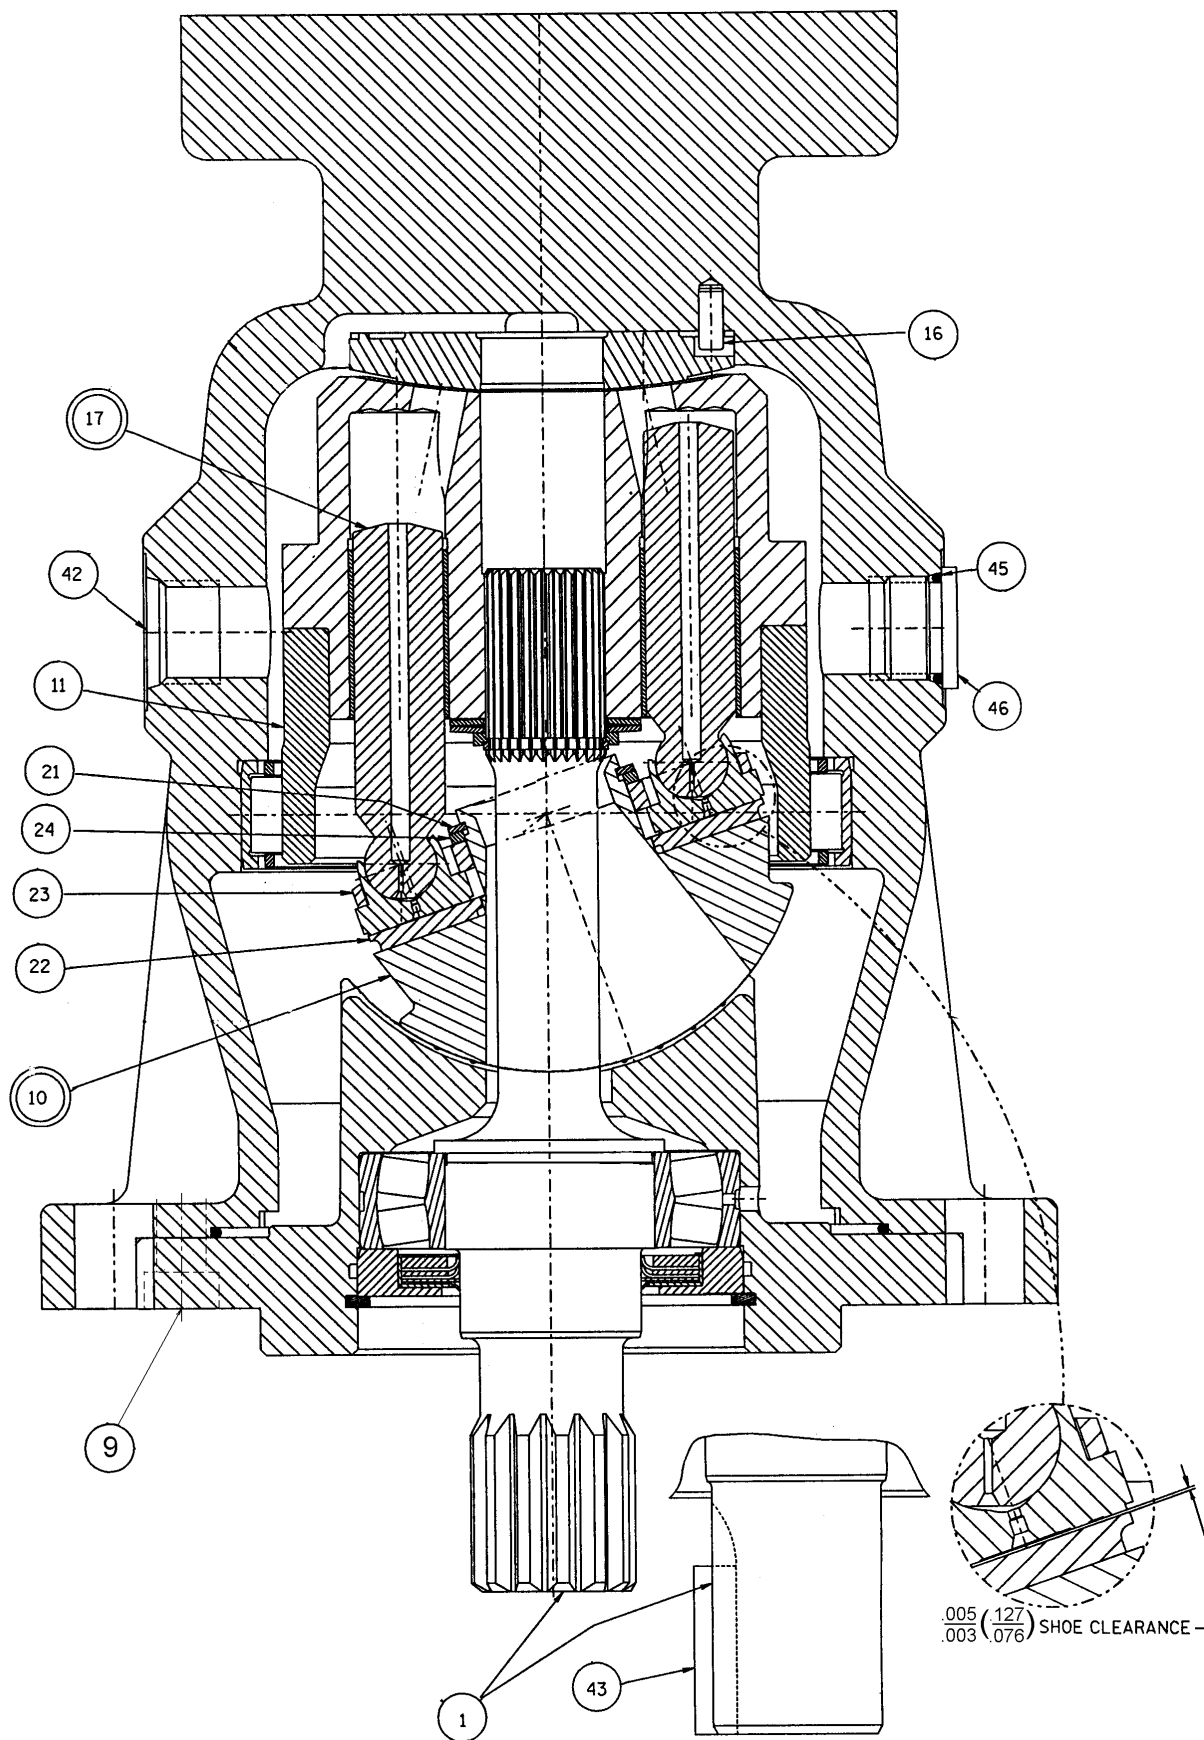

FIGURE 4
Remove port plate alignment pin (16), figure 4, from port block.
Install pin (16 figure 4) into port block.
See figure 4. Install socket head cap screws (9) as shown. Torque to 30 ft-lb, 41 Nm. Install case drain plugs (42) and (46).